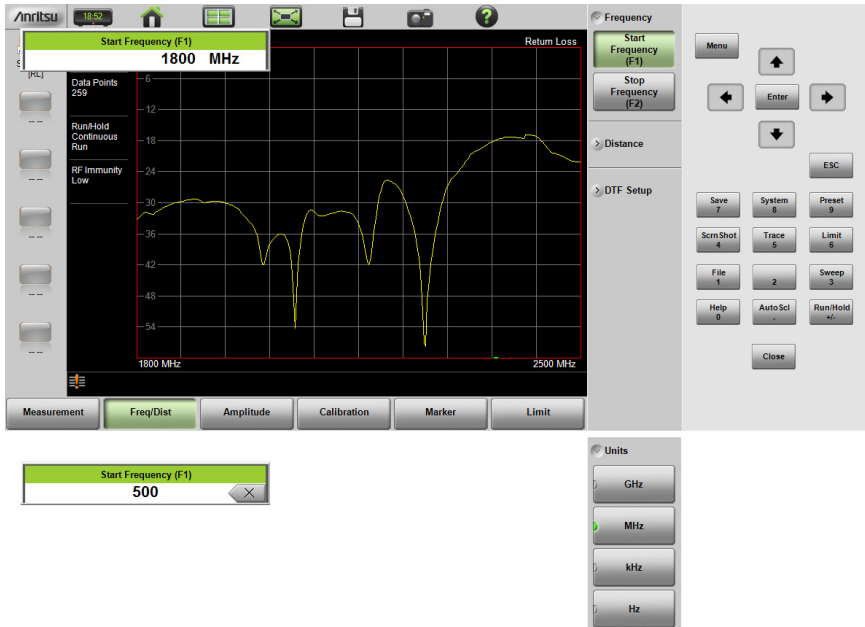

Figure 3-21. Entering Frequency Setting
2. Press the **Start Frequency** submenu key and use the virtual keypad to enter the value in the edit box. See Figure 3-21.